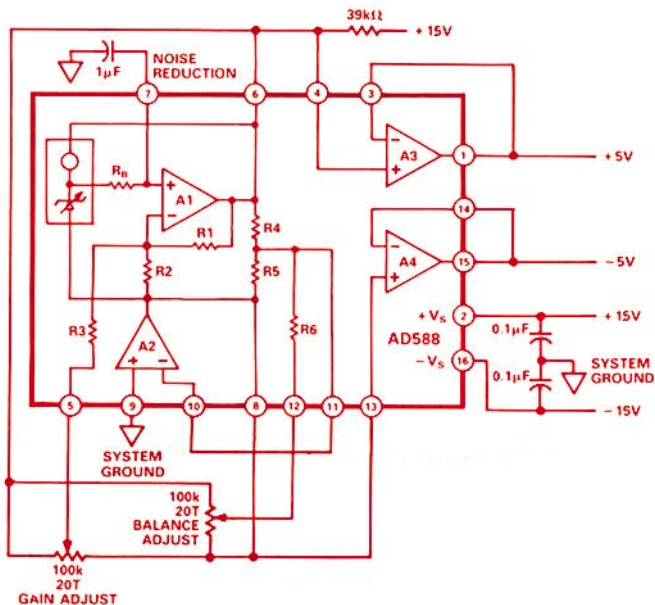

Figure 3. Connection for ±5-volt dual outputs.
A functional block diagram of the 2S81 is shown in Figure 3. The ratio multiplier in the input section compares the inputs from the resolver with the most-recent angle (digital output value), which is generated by a 12-bit up-down counter. The counter is driven by a voltage-controlled oscillator (VCO), which in turn is driven by an integrator. The output of the ratio circuit goes to a phase-sensitive demodulator, using the resolver's reference; the dc output value—which becomes the input to the integrator—is proportional to the position error of the converter.
Figure 3. Functional block diagram of 2S81; note the external circuitry that enables the user to determine noise level, closed-loop dynamic performance, and maximum tracking rate.
The same principle applies to connections to the second sensing point, at B (14), and to the system-ground sense connection, at pin 9. By changing the external connections, other output voltages can be programmed. For example, consider Figure 3, a circuit to provide +5 V and -5 V, with respect to system ground.